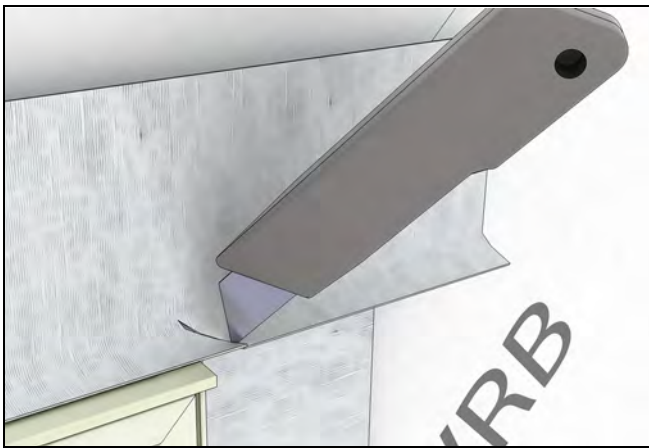
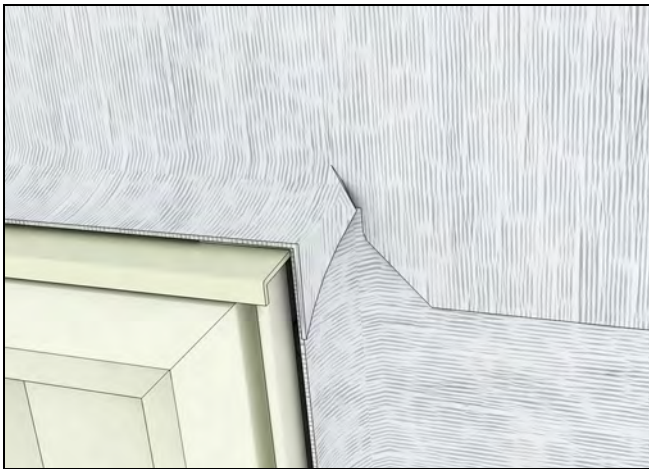

Figure 274
Figure 275
7. Install another layer of adhesive membrane lapping onto the rigid head flash of the window and over the sheathing. The membrane flashing at the head jamb should extend and cover the flashing previously installed at the jambs. Make relief cuts and fold down so the that it wraps around the jamb. See Figure 274 and Figure 275.